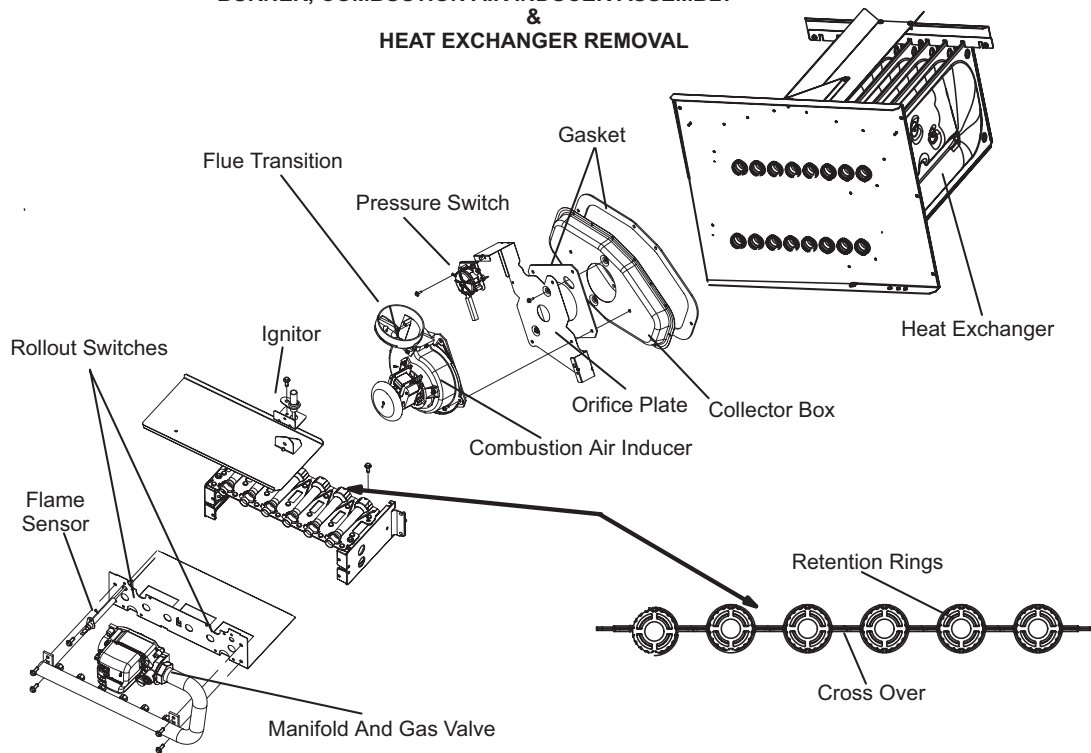

FIGURE 22
- 12 - To clean burners, run a vacuum cleaner with a soft brush attachment over the face of burners. Visually inspect inside the burners and crossovers for any blockage caused by foreign matter. Remove any blockage. FIGURE 22 shows burner detail.